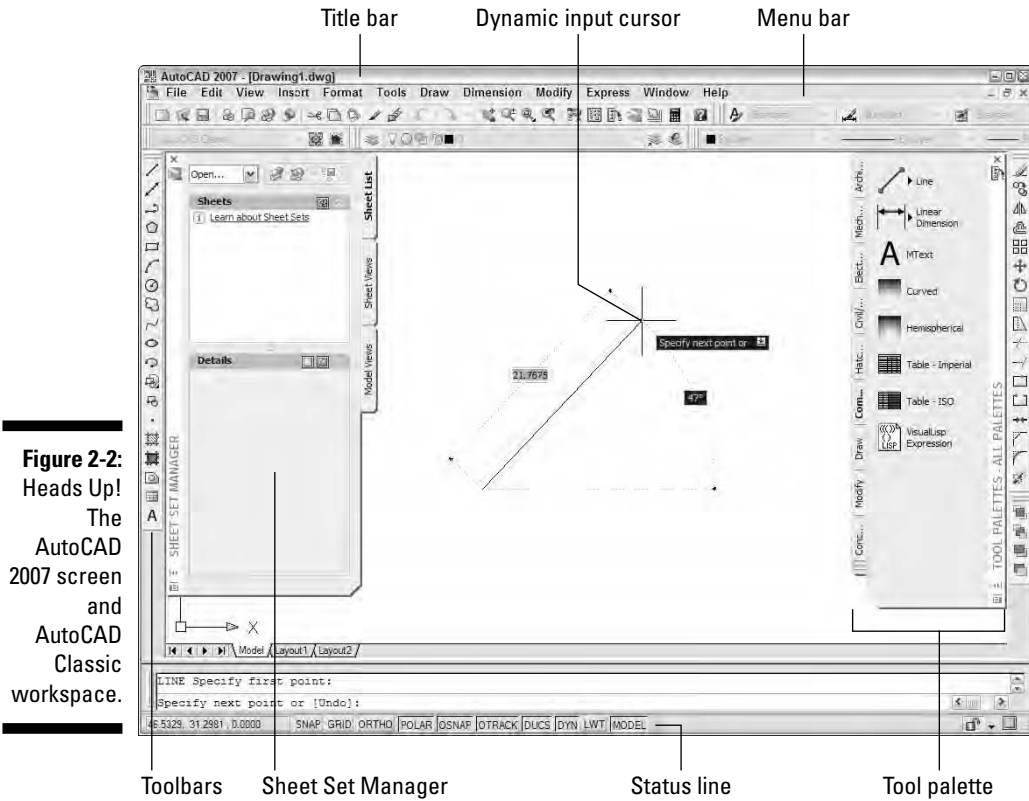
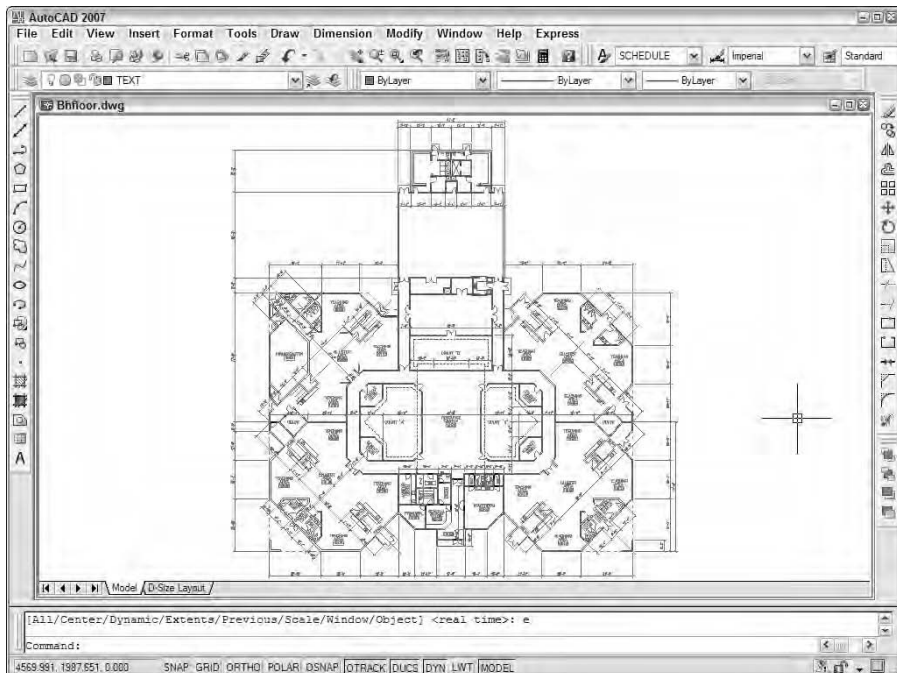

Figure 2-2:
Figure 2-3:
After you switch to the AutoCAD Classic workspace, AutoCAD displays its old familiar 2D interface, as shown in Figure 2-2. You can close the Sheet Set Manager and Tool Palettes for now — we describe how to turn them back on and how to use them later in this chapter.
As shown in Figure 2-2, much of the AutoCAD screen is standard Windows fare — title bars, a menu bar, toolbars, and a status bar.
As in other Windows programs, if you maximize a drawing's window, it expands to fill the entire drawing area. (AutoCAD 2007 starts with the drawing maximized in this way.) As shown in Figure 2-2, the drawing's control buttons move onto the menu bar, below the control buttons for the AutoCAD program window; the drawing's name appears in the AutoCAD title bar. To unmaximize (restore) the drawing so that you can see any other drawings that you have open, click the lower Restore button. The result is as shown in Figure 2-3: a separate title bar for each drawing with the name and controls for that drawing.
- ✓ Values that you type appear in the tooltip, and the dynamic input system displays dimensions when you're drawing things or moving them around. (Refer to Figure 2-2.)